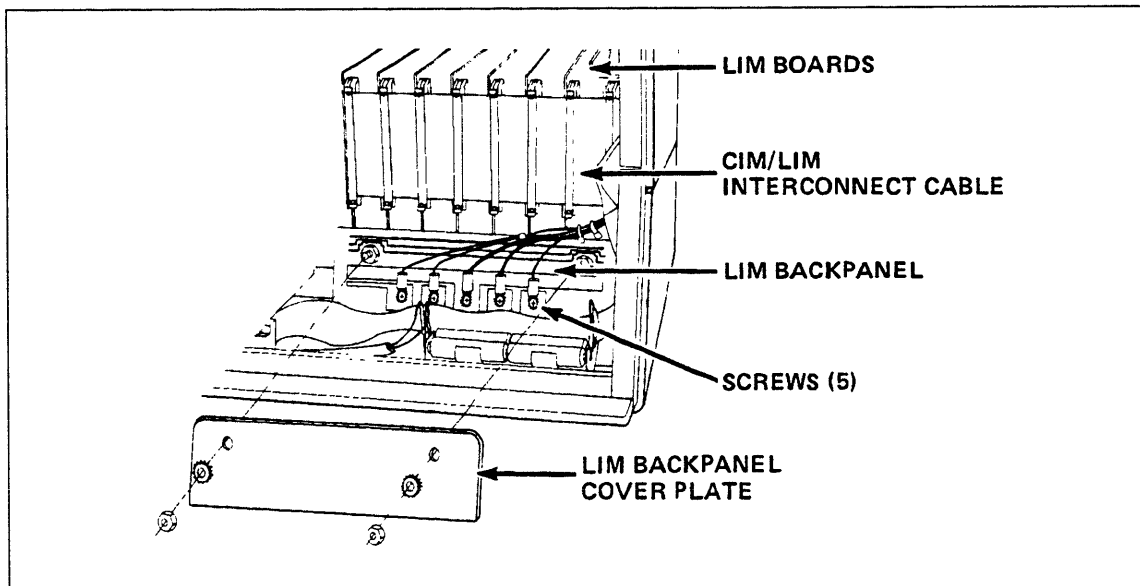

Figure 9-12. LIM Backpanel (Front View)
3. Remove LIM backpanel cover plate (figure 9-12) by removing two nuts (11/32) that connect it to LIM backpanel.
4. Loosen five screws on front of LIM backpanel (figure 9-12). Label (for easy reassembly) and remove five wires.
6. To remove LIM boards, rotate cams on CIM/LIM interconnect cable (figure 9-12) simultaneously, and push board out back of DI. Label board slot number for easy reassembly.